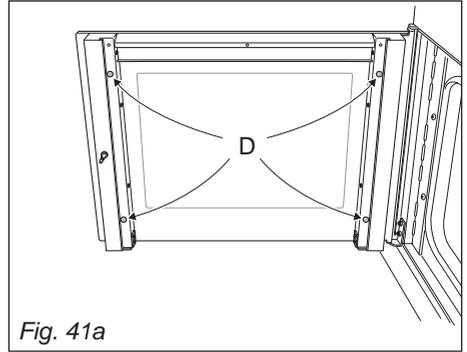

Fig. 41a
- Check that the four rubber pads are in place ("D" in fig. 41a).